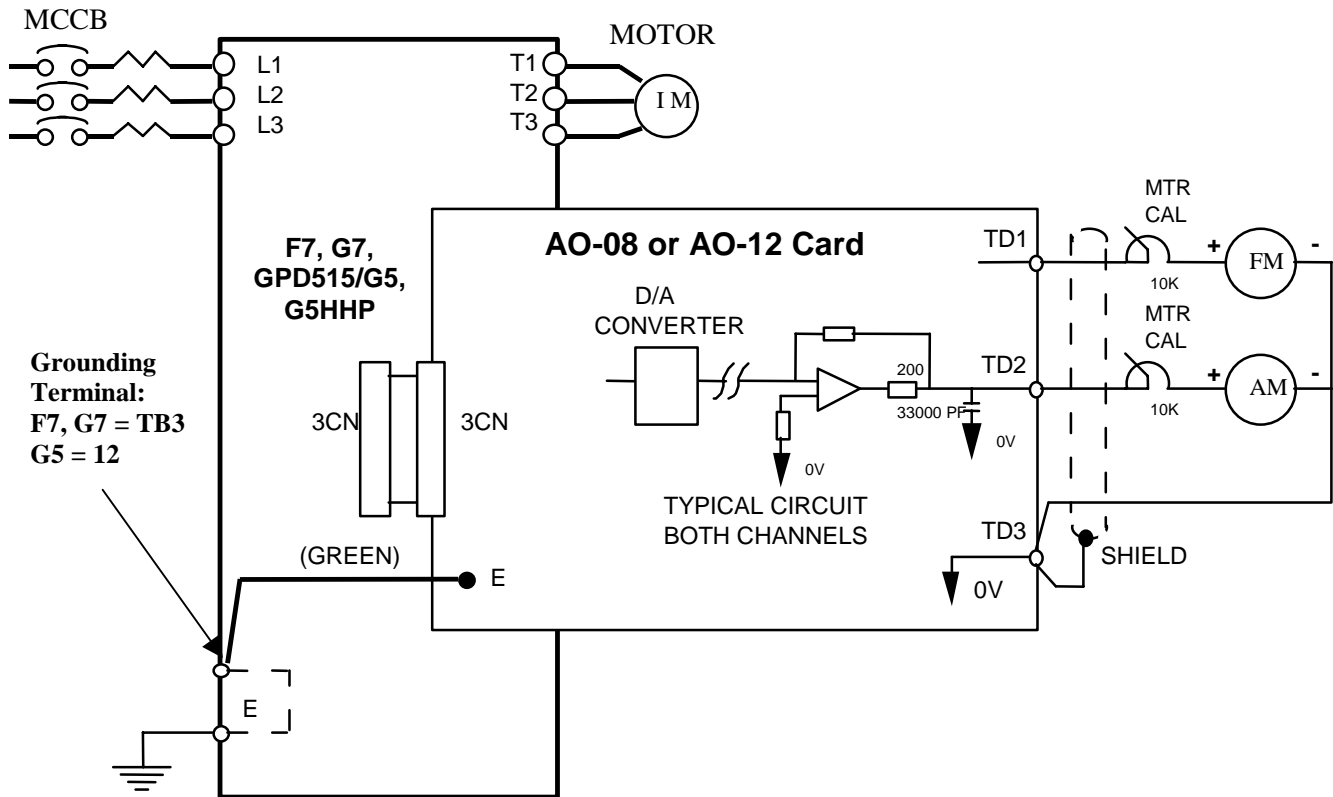

Figure 2. AO-08 / AO-12 Interconnection Diagram
6. **Wiring:** Refer to Figure 2 and Table 2. Make wire connections between the AO-08 / AO-12 card and the drive as well as all peripheral devices. Observe the following:
- c) Connect the option card ground wire (E) to the drive's ground terminal TB3 (12 for G5).